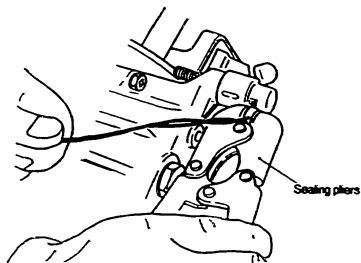

Fig. 10 Sealing the cap
5. Ensure that the lead seal is not loose and then crush the lead seal using sealing pliers. (Fig. 10) This is done to identify who was responsible for injection pump adjustment.